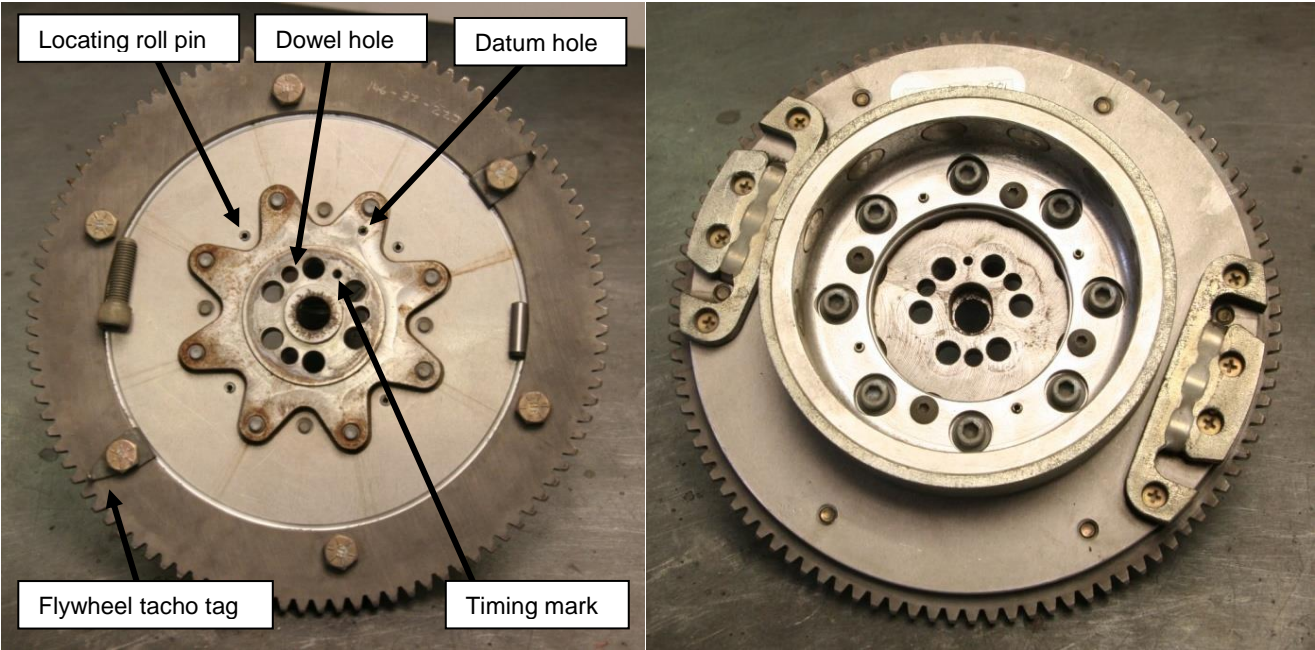

Figure 148 – Flywheel Assembly
- Dome-head screws are used in the alternator magnet housing (Figure 148, right). This provides clearance from the stator – if normal socket head screws are used here alternator damage will result.
- Solid Pole Plates (shown Figure 148) are fitted with 1/2" 10-32 countersunk screws.